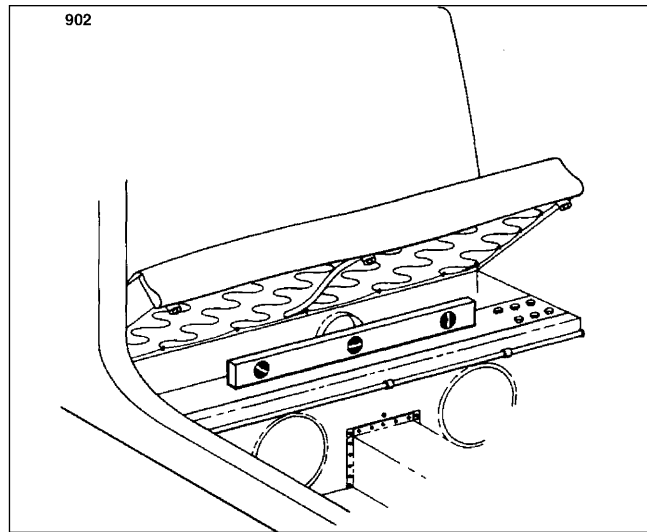

Figure 2-7. Leveling Laterally
- a. To laterally level the airplane, place a level across the spar box assembly under the rear seat. (Refer to Figure 2-7.) Raise or lower one wing tip by deflating the appropriate tire on the high side of the airplane or adjust either jack until the bubble of the level is centered.